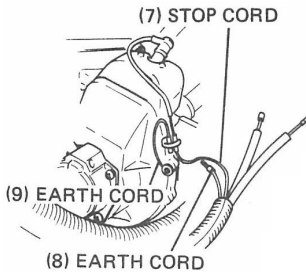

Fig. 6A
- g. Connect the end of earth cord (8) to the earth cord (9) on engine. (Fig. 6A)
NOTE: Make sure the earth cord (8) which connects to the ON/OFF switch base is connected to the cord going to the ground. If these stop and earth wires are reversed, the engine will not start. (Fig. 6A)